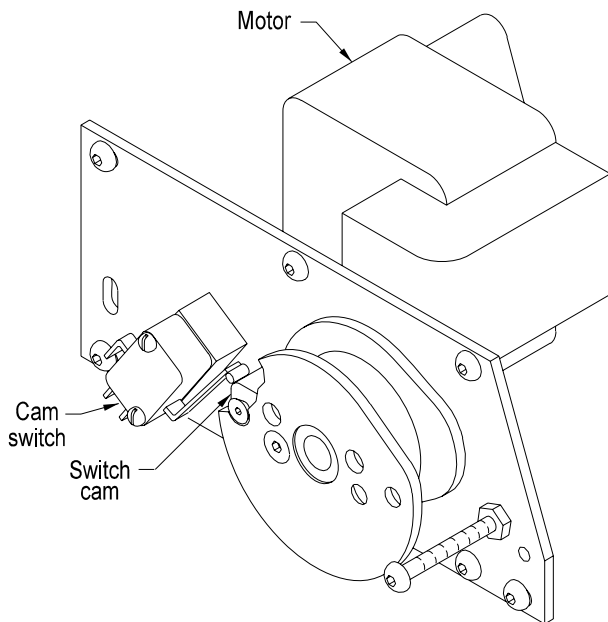

Figure 3.13
The closer cam drives the pick through its cycle and raises the closure stop at the proper time to stop the closure strip so the leading closure can be separated from the remaining strip. The printer cam operates the printer mechanism. The closer cam and the printer cam fasten to either side of the cam hub. Additionally the switch cam contacts the cam switch which stops the motor and cam assembly when the pick is in the parked or neutral position (Figure 3.13). The cam assembly should remain on the motor shaft with no need for adjustment. If, however, the cam assembly is disassembled, the following information is helpful to reassemble it.
6. If the switch cam (Figure 3.13) has been removed, remount it after the cam and hub have been connected. Square up the switch cam to the cam hub and then tighten into place.